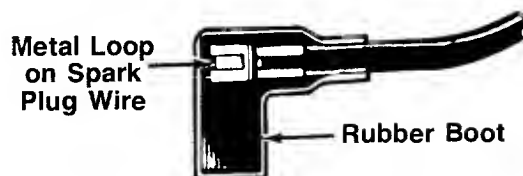

FIGURE 23.
2. Attach spark plug wire to spark plug. Make certain the metal loop on the end of the spark plug wire (inside the rubber boot) is fastened securely over the metal tip on the spark plug. See figure 23.